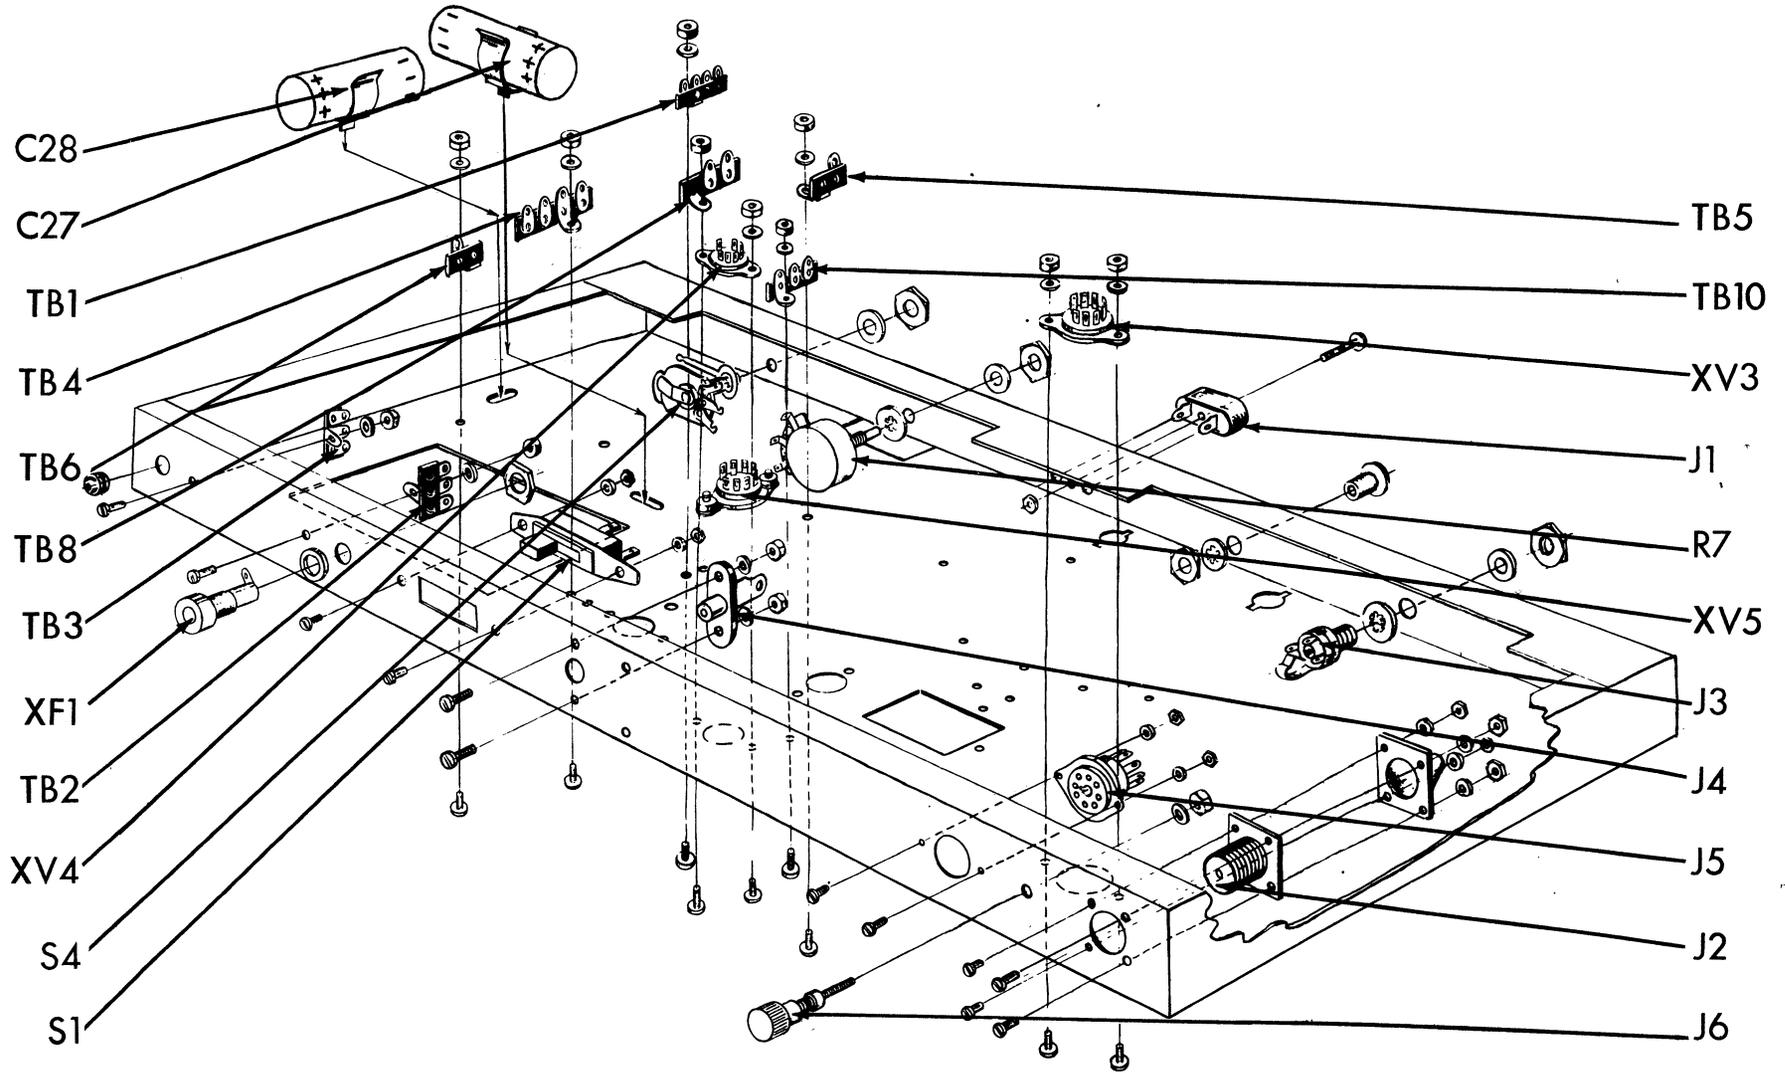
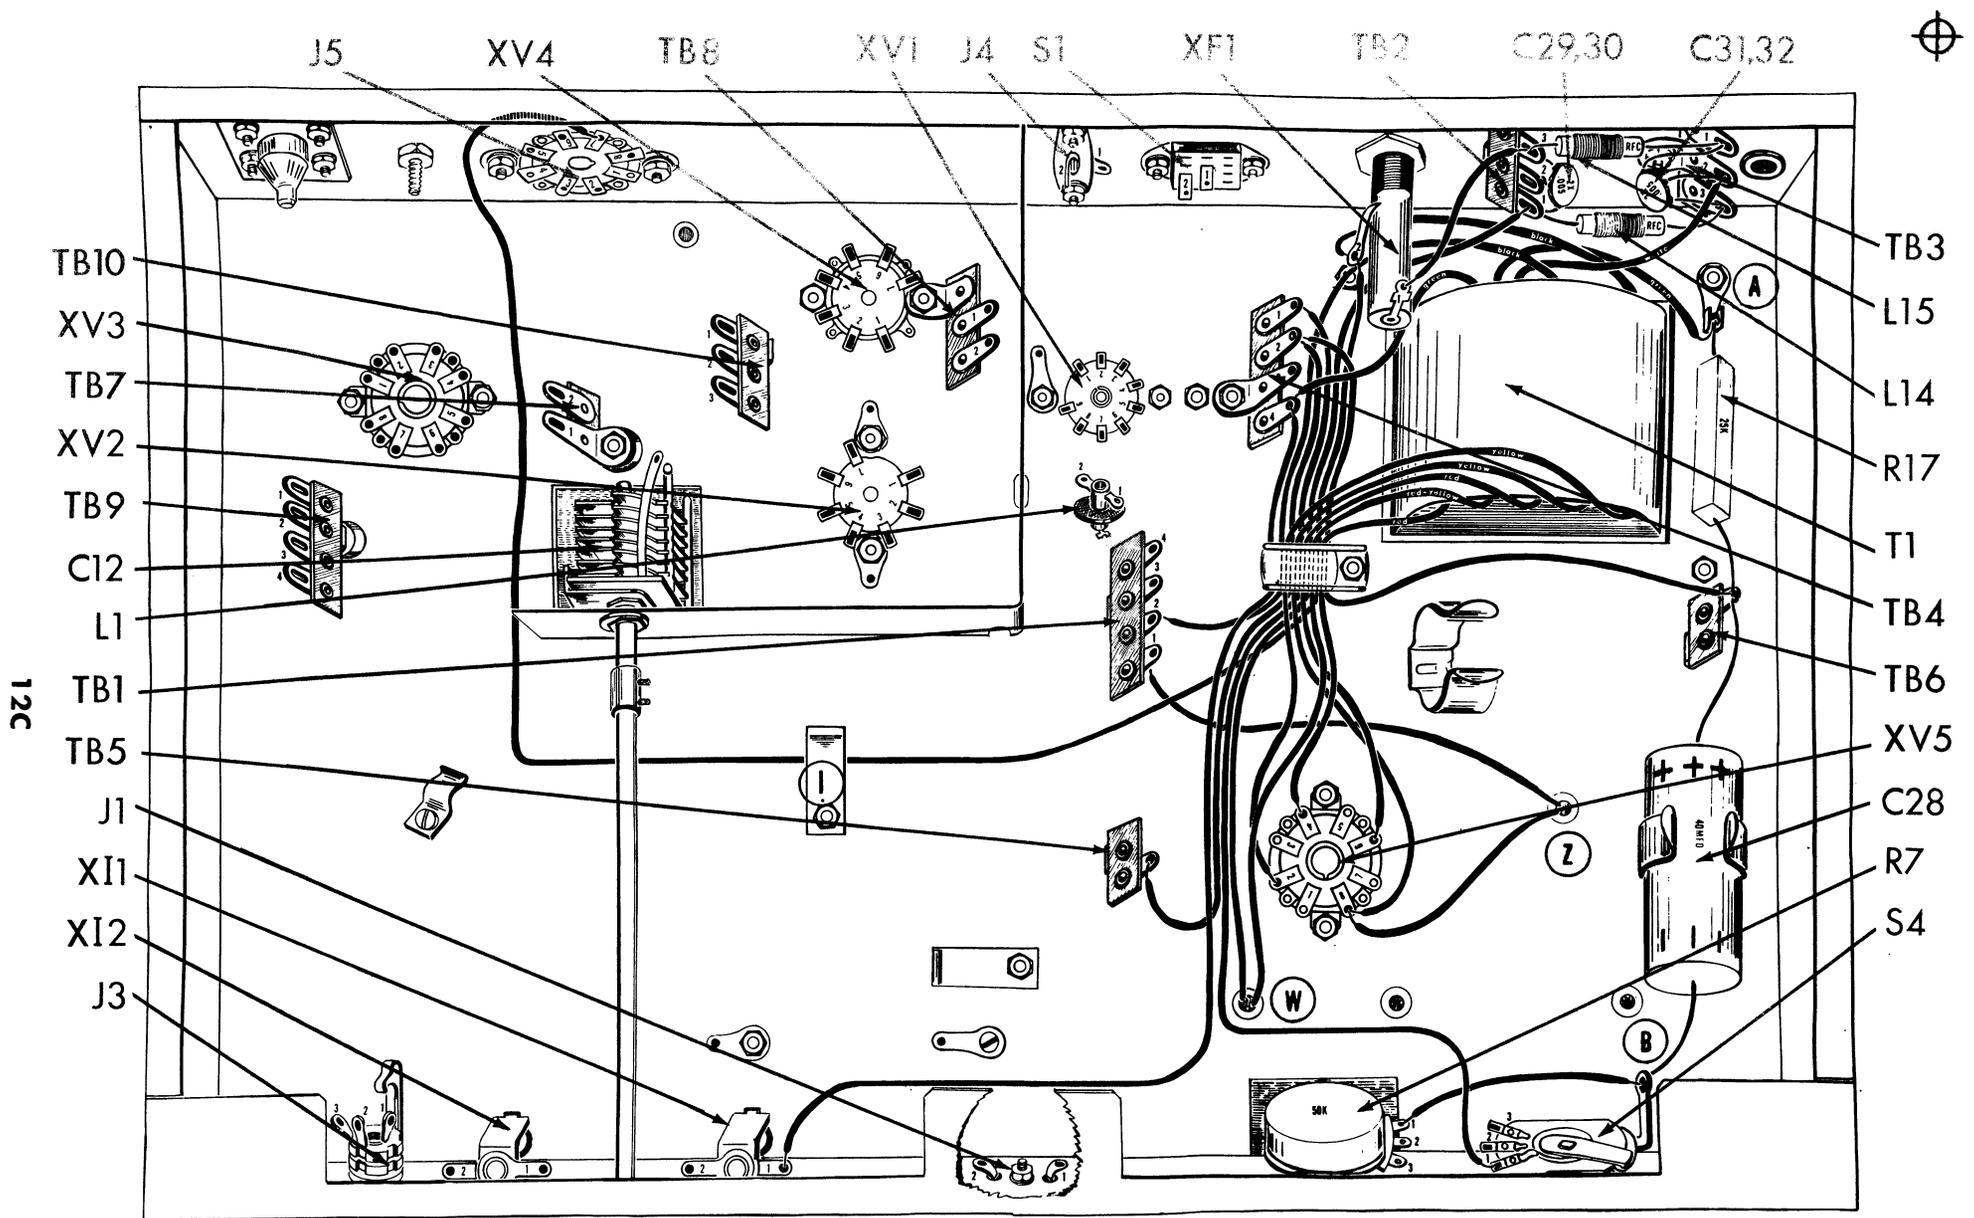

Fig. 1
Fig. 4
1. (✓) Fig. 1. Mount the two post with ground terminal strip, TB3, as shown. Use one #6-32 x 1/4 screw, one #6 lockwasher and one #6-32 hex nut.
2. (✓) Fig. 1. Push a 3/8" rubber grommet into the hole next to TB3.
3. (✓) Fig. 1. Mount the two post with ground terminal strip, TB2, as shown. Use one #6-32 x 1/4 screw, one #6 lockwasher and one #6-32 hex nut.
- 3C 4. (✓) Fig. 1. Mount the single pole single throw slide switch, S1, as shown. See Fig. 5 for orientation. Use two #4-40 x 1/4 screws, two #4 lockwashers and two #4-40 x 1/4 hex nuts.
5. (✓) Fig. 1. Mount RCA phono jack, J4, as shown. See Fig. 4 for orientation. Use two #4-40 x 1/4 screws, two #4 lockwashers and two #4-40 x 1/4 hex nuts.
6. (✓) Fig. 1. Mount the octal socket, J5, as shown. Note direction of key at center of socket. Use two #6-32 x 1/4 screws, two #6 lockwashers and two #6-32 hex nuts.
7. (✓) Fig. 1. Mount binding post, J6, as shown. Do not use any insulating washers. Use one #8 lockwasher and one #8 hex nut.
8. (✓) Fig. 1. Mount the jack, J2, as shown. The cover for the jack (shield cup) and the jack are both mounted from the inside of the chassis. Use four #4-40 x 1/4 screws, four #4 lockwashers and four #4-40 x 1/4 hex nuts. Do not tighten the nuts as yet.
9. (✓) Fig. 1. The front panel is held against the front apron with the same 3/8 nuts used for mounting the switches, pots, capacitors, and jacks. This is
10. (✓) Fig. 1. Similar to the above, mount the pot, R7, as shown. Use one 3/8 lockwasher, one 3/8 flatwasher and one 3/8 hex nut.
11. (✓) Fig. 1. Mount the crystal holder jack, J1, as shown. Use a #4-40 x 3/4 screw and one #4-40 x 3/16 hex nut.
12. (✓) Fig. 1. In the hole next to J1, in the front apron, mount a 3/8 bushing. Use a 3/8 lockwasher and a 3/8 hex nut. Note that a 5" shaft will be pushed through this bushing.
13. (✓) Fig. 1. Mount the jack, J3, as shown. Use one 3/8 lockwasher, one 3/8 flatwasher and one 3/8 hex nut. J3 is to be mounted at an angle with the chassis, so that it will not short against the chassis when a plug is inserted.
14. (✓) Fig. 1. Mount the octal tube sockets, XV3 and XV5, as shown. Use two #6-32 x 1/4 screw, two #6 lockwashers and two #6-32 hex nuts. Note mounting direction in Fig. 4.
15. (✓) Fig. 1. Mount the 7 pin miniature tube socket, XV4, as shown. Use two #4-40 x 1/4 screws, one #4 lockwasher and two #4-40 x 1/4 hex nuts. Under one nut, mount a two post right terminal strip, TB8. Note orientation in Fig. 4.
16. (✓) Fig. 1. Mount the one post right terminal strip, TB6, as shown. Use one #6-32 x 1/4 screw, one #6 lockwasher and one #6-32 hex nut.
17. (✓) Fig. 1. Mount the two brackets for the 40mfd, 450 volts electrolytic capacitors, C27 and C28, as shown. These brackets snap in through the elongated holes. Push the capacitors into the brackets noting the polarity.
18. (✓) Fig. 1. Mount the three post, two left with ground terminal strip, TB1; three post two left with ground terminal, TB4; one post left terminal strip, TB5; and two post right with ground terminal strip, TB10, as shown. Use one #6-32 x 1/4 screw, one #6-32 lockwasher and one #6-32 hex nut as shown.
19. (✓) Fig. 1. Mount fuseholder, XF1, as shown. Use the small rubber washer under the head of the fuseholder outside the chassis and the fuseholder nut inside the chassis. Do not tighten this nut too much or fuseholder will crack.
8. (✓) Fig. 2A. Mount the seven pin miniature tube socket, XV2, with shield support as shown. Use two #4-40 x 1/4 screws, two #4 ground lugs and two #4-40 x 1/4 hex nuts. Note direction of mounting in Fig. 4.
1. (✓) Fig. 4. Connect the shorter of the two leads from hole "Z" to XV5-8 (C) and the longer lead to TB1-1 (C).
2. (✓) Fig. 4. Cut all leads on the two dual .005 mfd (5K or 5000 mmf) disc capacitors, C31, C32 and C29, C30, to 5/8". Cover each lead with a 3/8" piece of spaghetti. Connect the center lead of one dual capacitor to TB2-2 (S1) and the center lead of the second dual capacitor to TB3-2 (C). On the former capacitor, connect one lead to TB2-1 (C) and the remaining lead to TB2-3 (C). On the second capacitor, connect one end lead to TB3-1 (C) and the remaining end lead to TB3-3 (C).
3. (✓) Fig. 4. The two RF chokes, L14, L15, are about 1" in length with leads emerging from the ends (axial leads). Cut all axial leads (the two leads on each choke to 3/4". Connect one choke from TB2-1 (C) to TB3-3 (C). Connect the second choke from TB2-3 (C) to TB3-1 (C).
4. ( ) Fig. 4. From the power transformer, T1, connect the shorter green lead to ground lug "A" (C).
5. (✓) Fig. 4. From the power transformer, T1, connect the shorter black lead to XF1-2 (C).
6. (✓) Fig. 4. From the power transformer, T1, connect the white lead to TB3-2 (S2).
7. (✓) Fig. 4. Connect one end of a 13" piece of black wire to TB2-1 (S3). Run the other end of this wire through the plastic cable clamp and along the chassis, as shown. Push this end through hole "W".
8. (✓) Fig. 4. Connect a 1 1/2" piece of black wire from TB2-3 (S3) to XF1-1 (S1).
9. (✓) Fig. 4. Connect one end of a 20" piece of grey wire to XF1-2 (S2). Run the other end of this wire along the chassis, through the plastic cable clamp. Bend the wire at a right angle and run it under metal cable clamp 1. Bend the wire again at a right angle and run it along the chassis to J5-7 (C).
10. (✓) Fig. 4. From the power transformer, T1, run the remaining black lead through the plastic cable clamp and connect to TB1-2 (C).